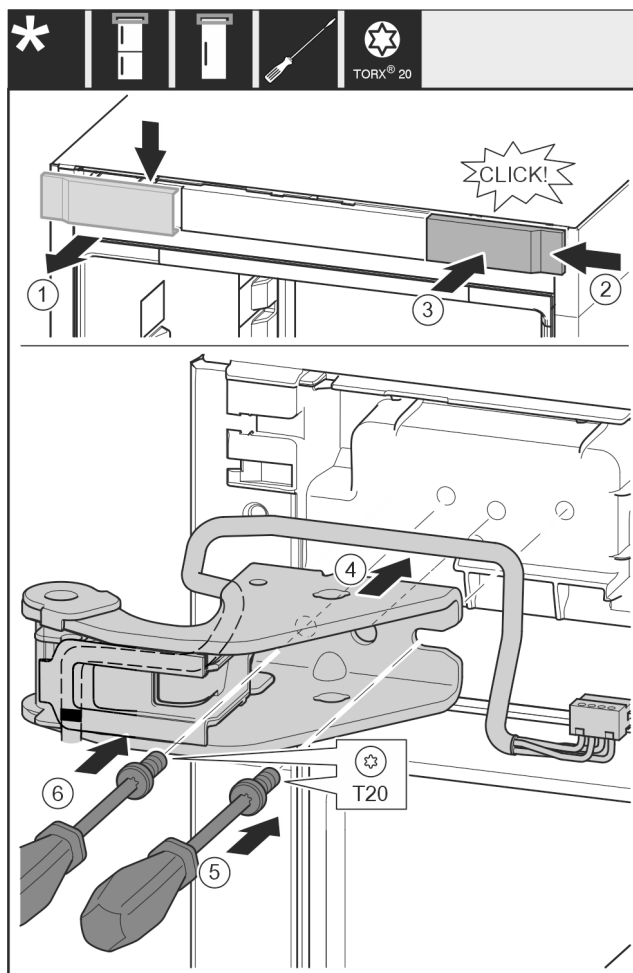

Fig. 32
- ▶ Take off the cover from above to the front. Fig. 32 (1)
- ▶ Rotate the cover 180° and clip onto the other side from the right. Fig. 32 (2)
- ▶ Latch the cover into place. Fig. 32 (3)
- ▶ Position the upper bearing bracket. Fig. 32 (4)
- ▶ Insert the screw with a T20 screwdriver and tighten it. Fig. 32 (5)
- ▶ Insert the screw with a T20 screwdriver and tighten it. Fig. 32 (6)